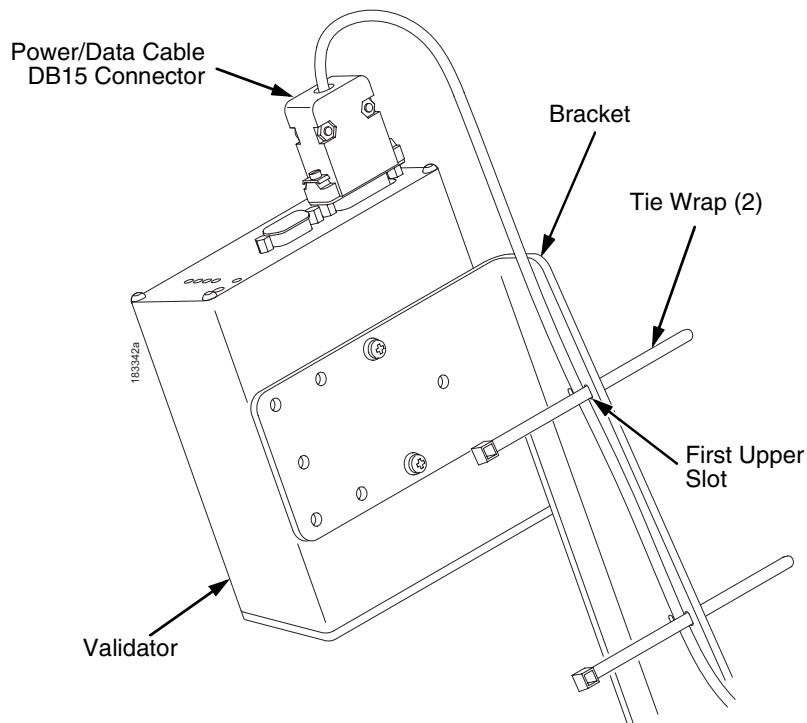

Figure 15. Attaching the Power/Data Cable
2. Route the power/data cable along the inside of the bracket, as shown in Figure 15.
3. Route a tie wrap from the inside of the bracket through the first upper slot as shown in Figure 15, keeping the power/data cable underneath the tie wrap.